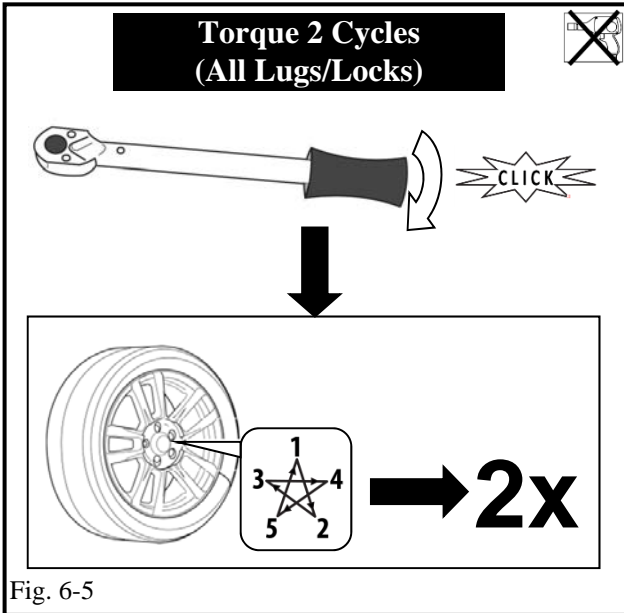

Fig. 6-5
- (i) Use a torque wrench to tighten the lug nuts in sequence 1 through 5 to 103N·m (76 ft-lbf) (Fig. 6-5).
- STOP** (j) Re-torque all of the lug nuts in same the 1-5 sequence (Fig. 6-5).